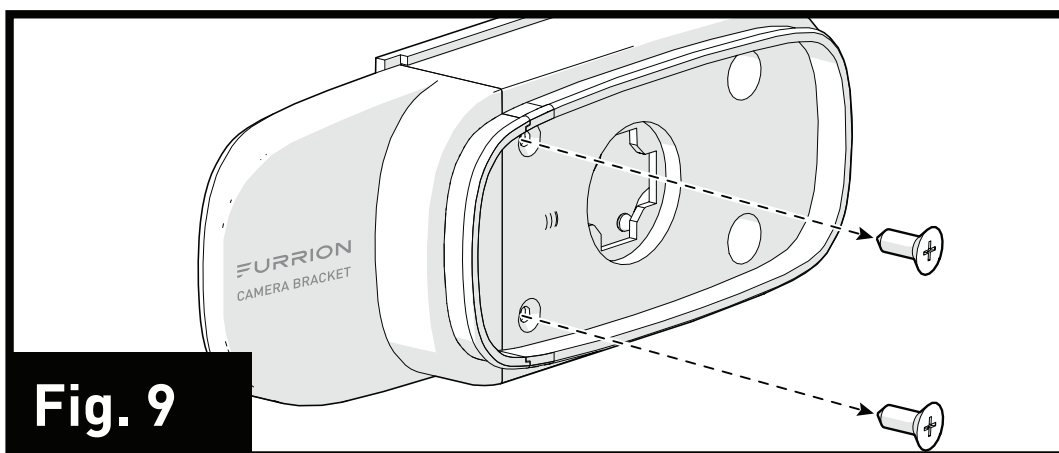

Fig. 9
3. Remove the two screws holding the decorative part using a Phillips-head screwdriver and set aside. (Fig. 9)